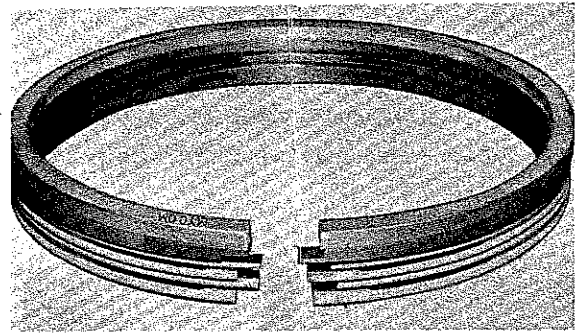

Fig. 86 Mark on ring
- In mounting compression rings, the stamped surfaces should be facing upwards. (Ref. Fig. 86.)